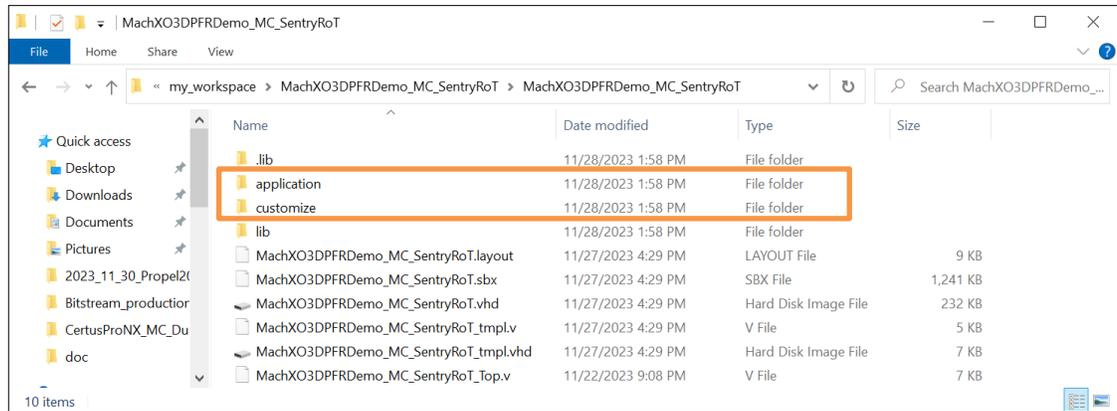

Figure 5.17. Other Resources in Source Project
- g. Check `<workspace>/<project_dir>/<project_name>` directory. If there are any other resource, copy them into the same directory under the new project without modification (Figure 5.17).